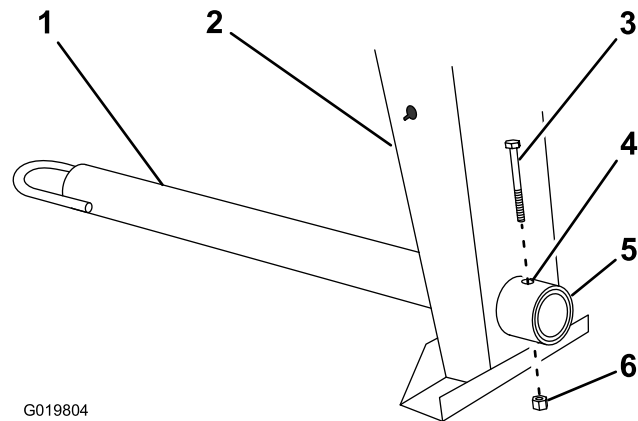

Figure 3
1. Remove the bolt and nut from the tow pole (Figure 3).
3. Insert the bolt through the holes in the fitting and the pole (Figure 3).
4. Thread the nut onto the bolt and tighten them until they are tight against the frame fitting (Figure 3).
2. Slide the tow pole forward and align the hole in the pole with the hole in the frame fitting (Figure 3).